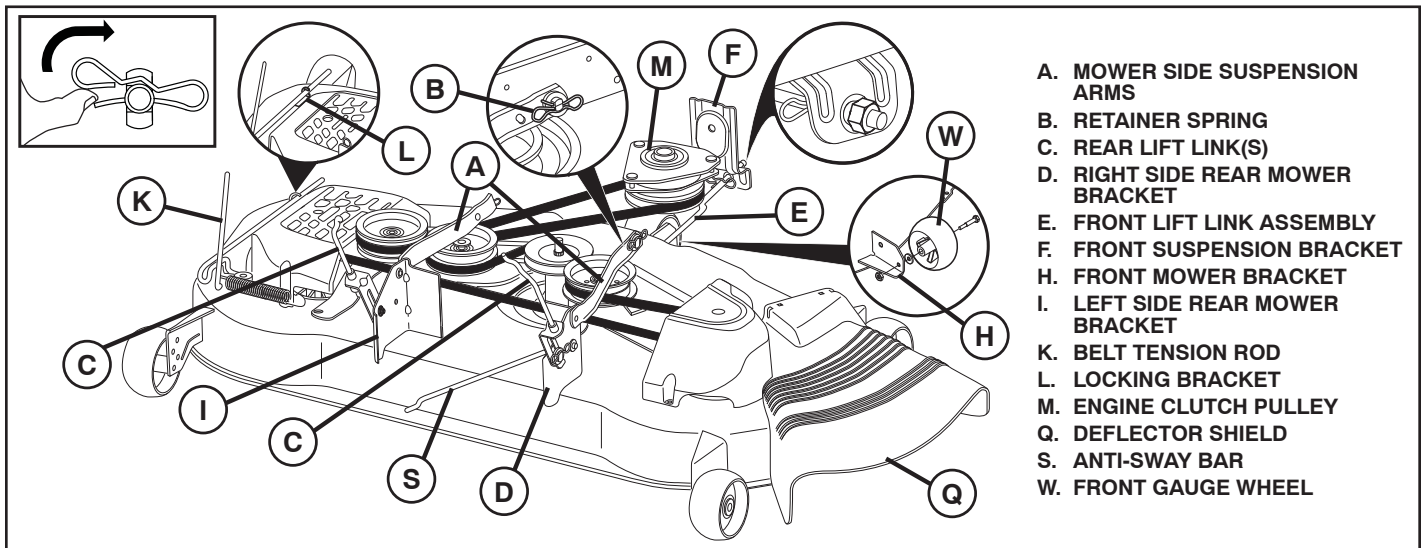

Fig. 21
TO REMOVE MOWER (See Fig. 21)
TO INSTALL MOWER AND DRIVE BELT (See Figs. 21 - 32)
9. INSTALL BELT ON ENGINE CLUTCH PULLEY (M) (See Fig. 21 & 32)
- Disengage belt tension rod (K) from locking bracket (L).
- Install belt onto engine clutch pulley (M).